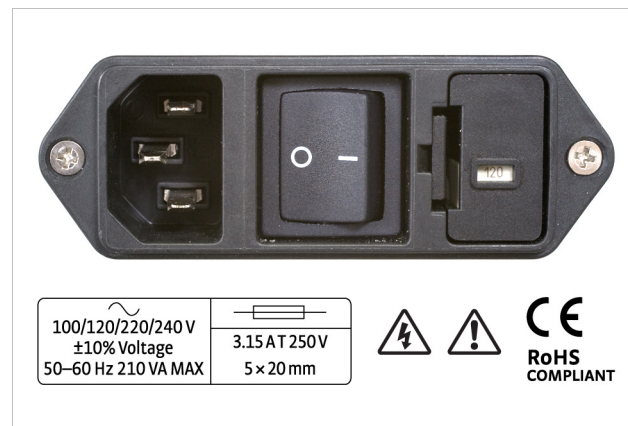

FIGURE 8-2 Power fuse access
1. Identify the line input assembly on the instrument rear panel. See FIGURE 8-2.
2. Turn the line power switch off (O).
10. Turn the line power switch on (I). Refer to FIGURE 8-2.
1. Locate the line input assembly on the instrument rear panel. See Figure 8-2.
2. Turn the power switch Off (O).
9. Turn the power switch On (I).